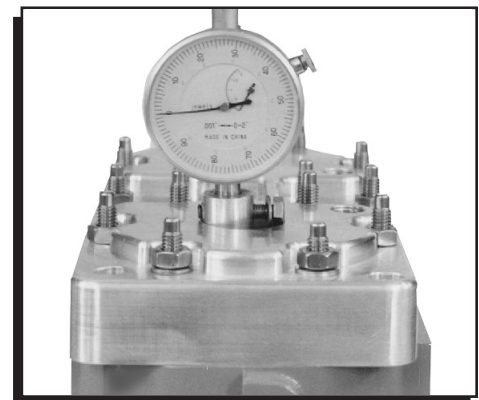
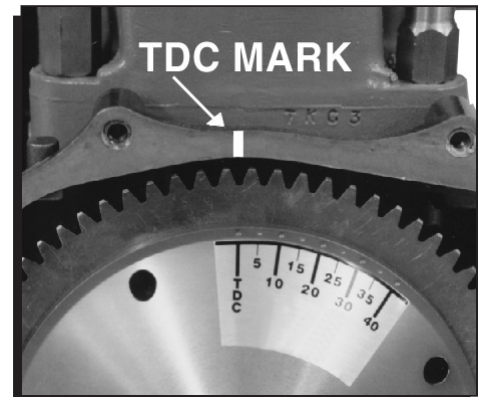

Figure 12 Finding TDC.
Figure 13 Marking TDC.
1. Locate Top-Dead-Center (TDC) by placing a dial indicator in the front cylinder and rotating the crankshaft until the piston reaches the highest point in the cylinder (Figure 12). When TDC is found, place a mark on the engine case so that it lines up with the TDC mark of the far left timing mark on the flywheel as shown in figure (Figure 13).